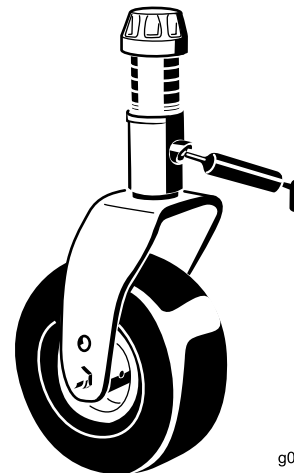

Figure 38
- Castor fork shaft bushings (2) (Figure 38)